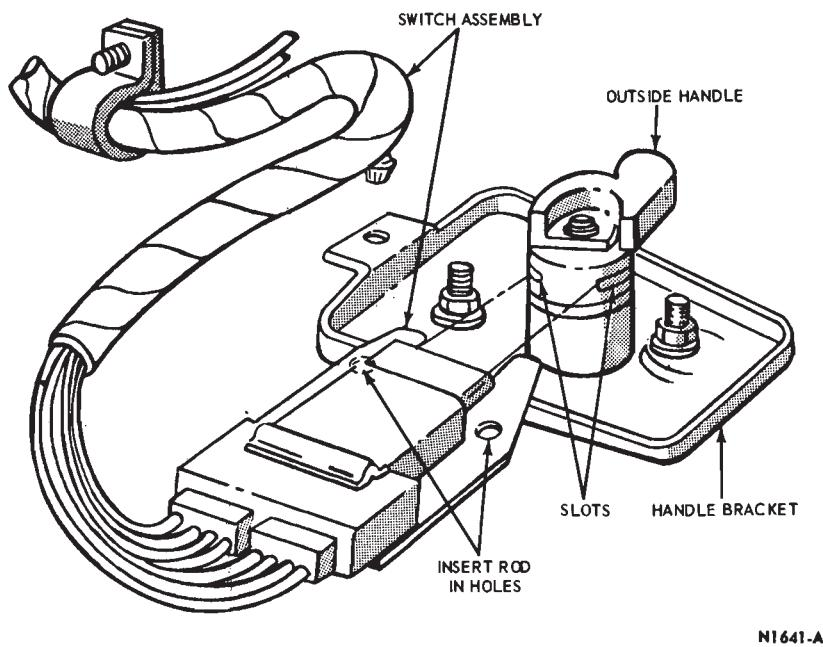

FIG. 9—Tailgate Power Window Switch Installation—Fairlane and Montego
- Remove the window switch from the latch outside handle. This can be accomplished by inserting a small steel rod into the two holes in the switch assembly (Fig. 9) and spreading the spring clips outward. Then, slide the switch assembly off the latch outside handle.
3. Remove the window switch assembly from the latch handle. This can be accomplished by inserting a small steel rod into the two holes in the switch assembly and spreading the spring clips outward. Then, slide the switch assembly off the latch handle (Fig. 9).